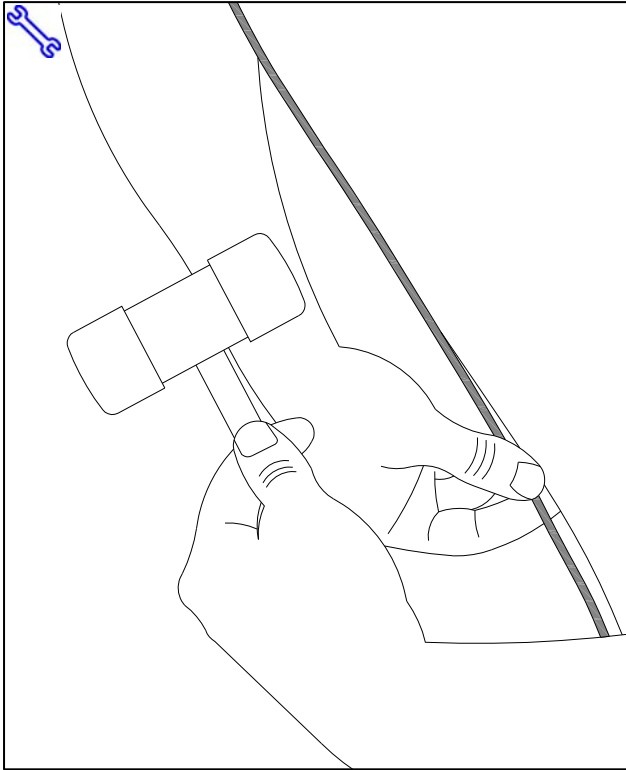

Fig. 1-6
- (g) Continue tapping channel onto door edge moving toward the bottom of door. Use your other hand to steady and guide DEG as you go. (Fig.1-6)